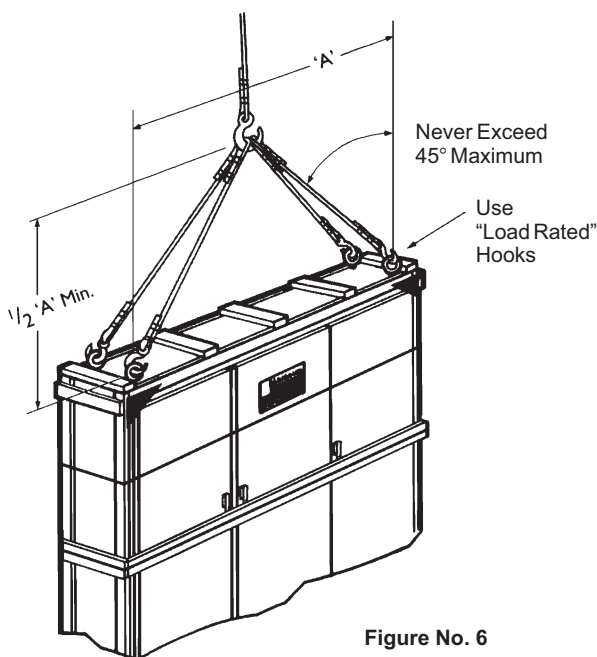

Figure No. 6
See Figure No. 6 and follow procedures as listed below.
1. Attach rigging to eye bolts **always maintaining the 45° maximum angle** illustrated in Figure No. 6. When lifting three-, four-, and five-door enclosures, **four** eye bolts must be used.
4. To reduce tension on the rigging and compression on the enclosure, do not allow the angle between the lifting cables and the vertical to exceed 45 degrees (Figure No. 6).